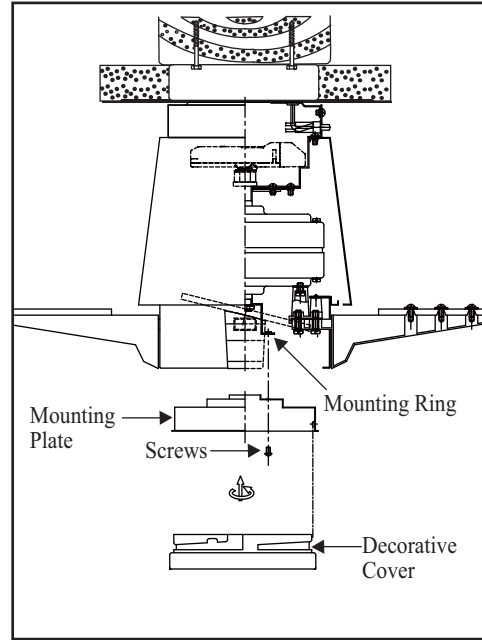

Figure 10
2. Place the key holes in the mounting plate over the two screws previously loosened from the mounting ring. Turn the mounting plate until the mounting plate locks in place at the narrow section of the key holes. (Fig. 10)